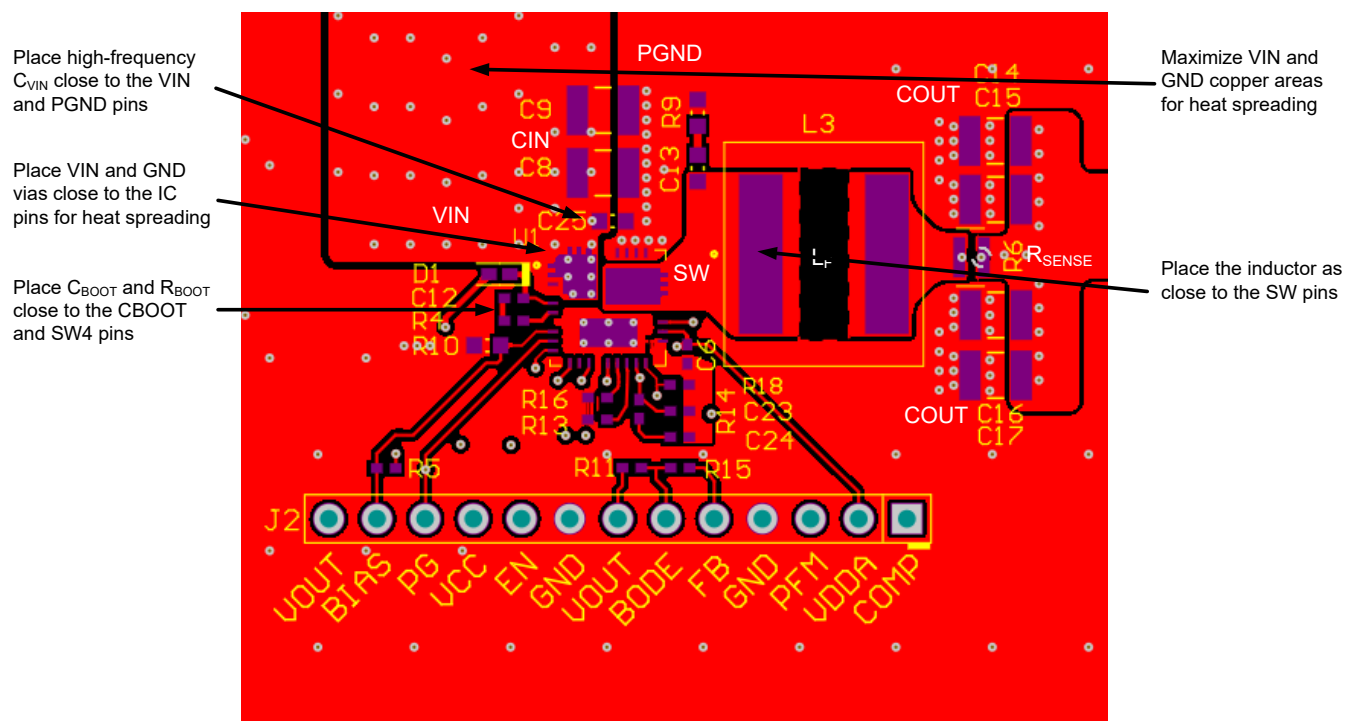

図 7-37. PCB Top Layer – High Density, Single-sided Design
The following list summarizes the essential guidelines for PCB layout and component placement to optimize DC/DC converter performance, including thermals and EMI signature. Figure 7-37 shows a recommended layout of the LM706x0 with optimized placement and routing of the power-stage and small-signal components.
- Use low-ESR ceramic capacitors with X7R or X7S dielectric from VIN to PGND. Place an 0402 capacitor close to VIN for high-frequency bypass as shown in Figure 7-37. Use additional 1206 or 1210 capacitors for bulk capacitance.